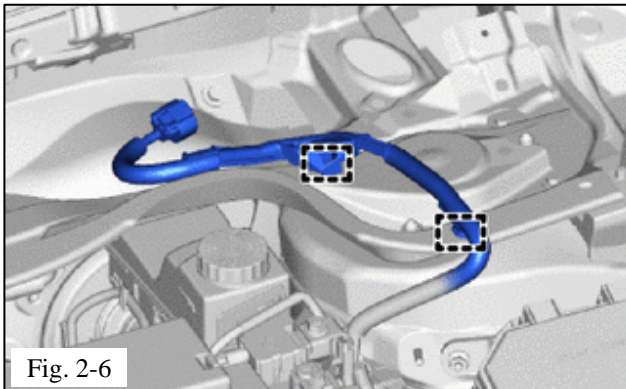

Fig. 2-6
- (f) Disengage the 2 clamps to separate the wire harness from the outer cowl top panel sub-assembly (Fig. 2-6).